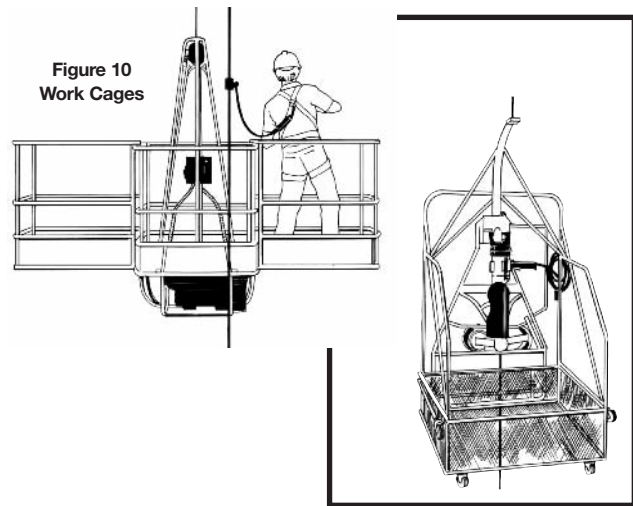

Figure 10
2.9 Work Cage with Powered Climber (Figure 10)